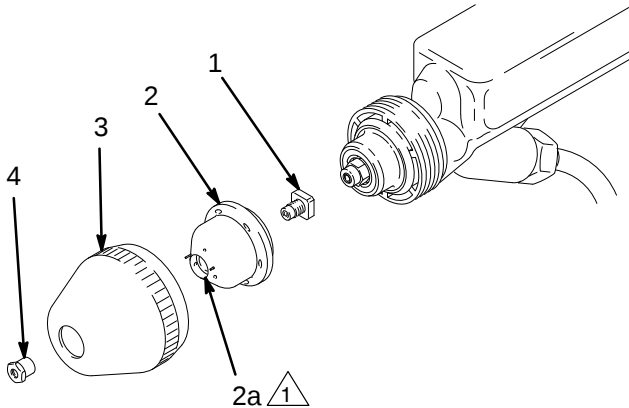

Fig. 2
4. Install the kit diffuser/seal assembly (1), air cap/electrode assembly (2), and cover (3) onto the gun. Tighten the cover firmly. See Fig. 2. Be careful not to cross-thread the cover onto the barrel.
If the electrode (2a) needs to be replaced or re-installed, insert the two ends of the electrode into the two small air cap (2) holes until both electrode ends protrude through the front of the air cap. Refer to Fig. 2, at left, and the **Parts** drawing, page 4.
2. Loosen the cover (3) and remove the round spray kit parts (1, 2, 4). See Fig. 2.